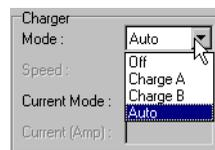

Figure 2-3. Select Charger Mode
5. Select the **Charger Mode** drop-down list to set the desired charger mode (Figure 2-3). **Current Mode** displays the charging battery: a, b, or none (off).